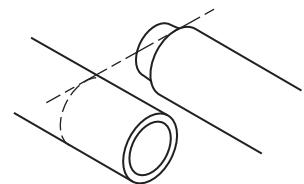

Figure 12
5) Lay two sections of the roll-up bar (1) on a flat surface, overlapping the open end of the tube with the welded billet in the other tube. Adjust the overlap so the 3" diameter tube is equal to the dimension determined in the previous step.
6) See Figure 12. Mark the open ended tube for a cut that allows a smooth and even weld to the billet in the other tube.